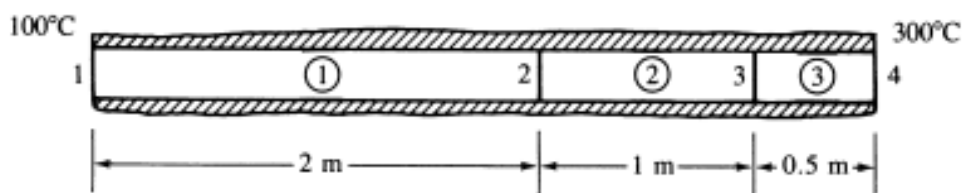

Figure.4
7. a) For the one-dimensional composite bar shown in Figure.4, determine the interface temperatures. For element 1, $K_{xx} = 150 \text{ W/m}^0\text{C}$, for element 2, $K_{xx} = 100 \text{ W/m}^0\text{C}$; and for element 3, $K_{xx} = 50 \text{ W/m}^0\text{C}$. Let $A = 0.1 \text{ m}^2$. The left end has a constant temperature of 100^0C and the right end has a constant temperature of 300^0C . [10]